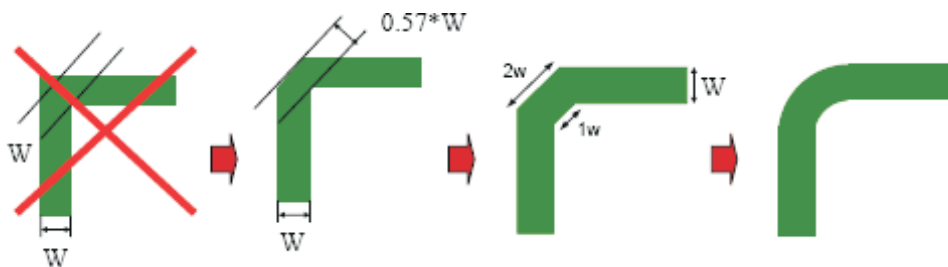

Figure 2-2. Poor and Good Right Angle Bends
6. Void right-angle bends in a trace and try to route them at least with two 45° corners. To minimize any impedance change, the best routing is a round bend (see Figure 2-2)